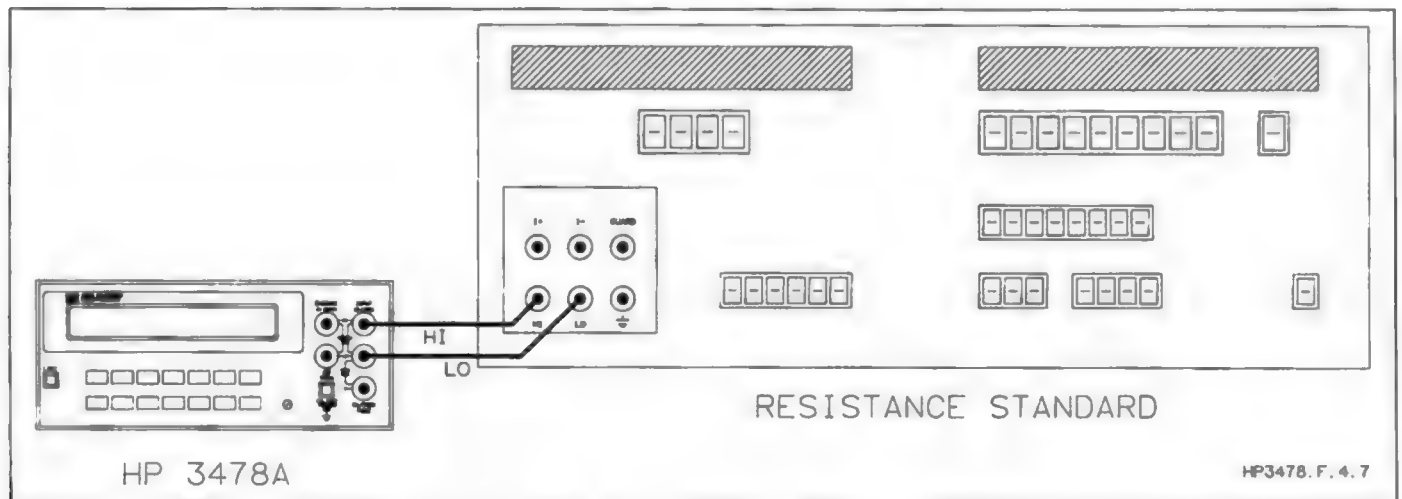
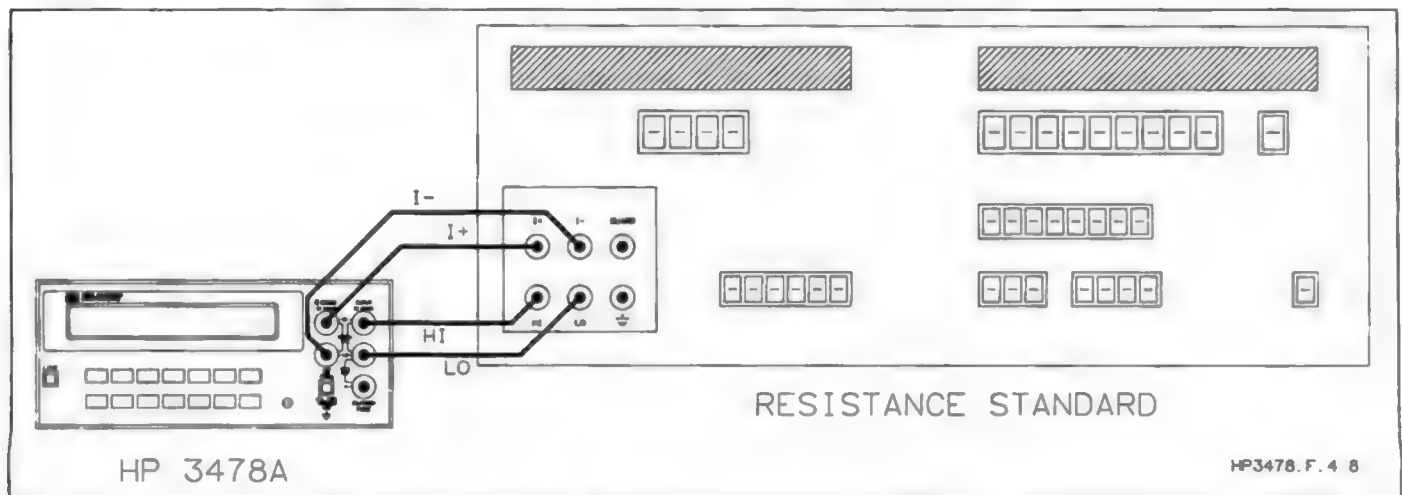

Figure 4-7. 2-Wire Ohms Test and Calibration Connections
Figure 4-8. 4-Wire Ohms Test and Calibration Connections
5) This Ohms Performance Test is written to support the recommended Resistance Standard. Figure 4-7 shows the test connections for 2-Wire ohms. Figure 4-8 shows the test connections for 4-Wire ohms.
d. (Step #9) Remove the short from the 3478A INPUT terminals. Set the 3478A to the 30 Ω range. Connect the Resistance Standard to the 3478A INPUT terminals (using either the connection shown in Figure 4-7 or 4-8, as appropriate).
4-80. If the calibration is to be done in the 2-Wire Ohms function, the Resistance Standard is connected to the HI and LO INPUT terminals as shown in Figure 4-7. If the calibration is to be done in the 4-Wire Ohms function, the Resistance Standard must be connected to the HI and LO INPUT terminals and the HI and LO SENSE terminals as shown in Figure 4-8.